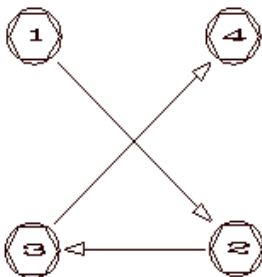

Figure 1. 334 Suggested body bolting sequence
3. The valve assembly should now be loosely secure. Before continuing to tighten the Body Bolts/Nuts, make sure the Body Seals are in position and have not slipped out of place. Continue hand tightening according to the pattern in Figure 1 to insure that each Body Bolt is secured to the same length. Do not over-tighten any one bolt.
4. Once end caps are secure and proper alignment is achieved, tighten each Body Nut with a torque wrench 1/4 turn, again alternating according to Figure 1. Continue repeating this cycle until reaching the torque value specified in Table 2. This should ensure proper seating and ball alignment.
9. Thread the Body Nuts onto each Body Bolt and loosely hand-tighten. Continue hand tightening the Body Nuts according to pattern in Figure 1 to insure that each Body Bolt is secured to the same length. Do not over-tighten any one nut.
10. Ball should now be loosely secure. Turn valve upright and inspect to see that the Stem is straight and Ball orifice is aligned with the End Cap bore holes. Use of a cylindrical dowel to properly align the axis of the Ball between opposing End Caps is highly recommended. Continue hand tightening the Body Nuts according to sequence in Figure 1 until proper alignment is secured.
11. Once End Caps are on and proper alignment is achieved, tighten each Body Nut with a torque wrench 1/4 turn, alternating according to Figure 1. Continue repeating this cycle until reaching the torque value specified in Table 2. This should ensure proper seating and Ball alignment.